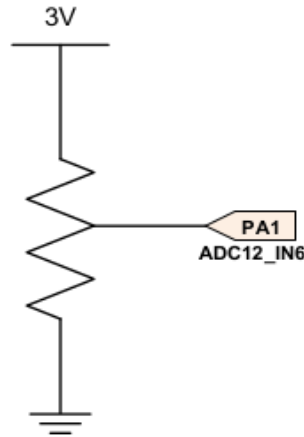

Figure 1: Potentiometer based voltage divider.
2. Connect it to the pin PA1 following the diagram in Figure 1.